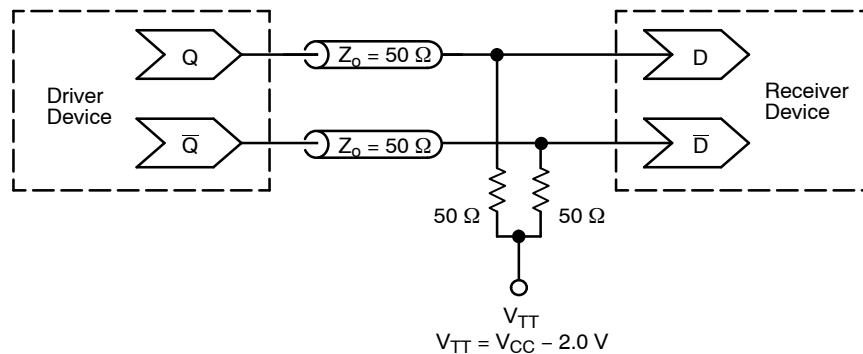

Figure 9. Typical Termination for Output Driver and Device Evaluation (See Application Note AND8020/D – Termination of ECL Logic Devices)
2. All loading with 50 Ω to $V_{CC} - 2.0\text{ V}$ (see Figure 9).
2. All loading with $50\ \Omega$ to $V_{CC} - 2.0\text{ V}$ (see Figure 9).
1. Measured using a 750 mV source, 50% duty cycle clock source. All loading with $50\ \Omega$ to $V_{CC} - 2.0\text{ V}$ (see Figure 9).